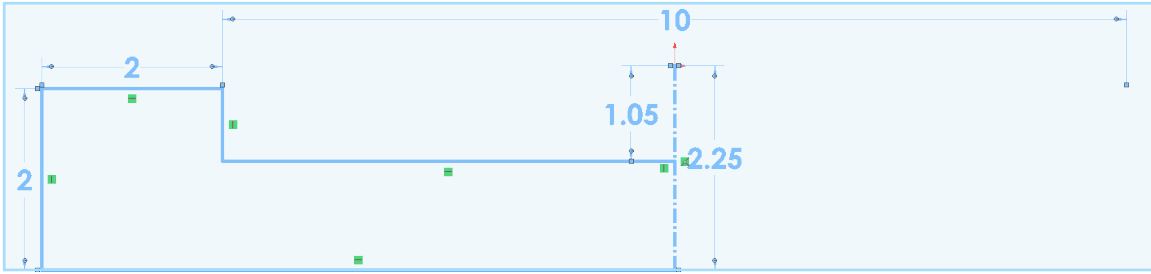

Fig. 5
Step 1. **Drag selection around the sketch** to select all entities, **Fig. 5**. To drag selection, click above and to left of sketch and drag down and to right to drag around all.